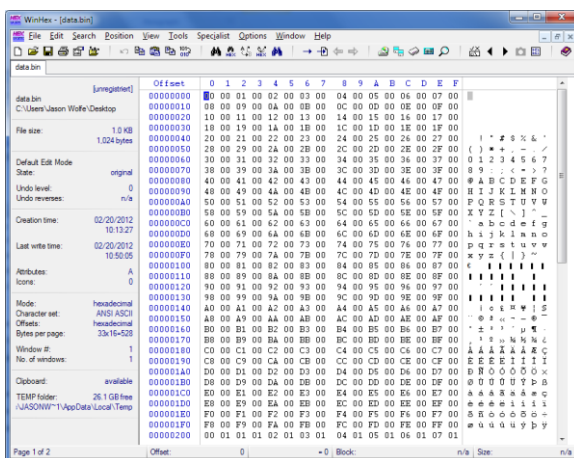

Figure 6 – Hex Editor with Incrementing Count
- d. To verify that counting data was written and read correctly, click the “Edit” button in the “Read” section. This will launch a hex editor that will display the contents of the file. Verify that there is an incrementing count as shown in Figure 6. Note that depending on the endianness of your system, the MSB and LSB of the read data may be reversed from that shown in Figure 6.